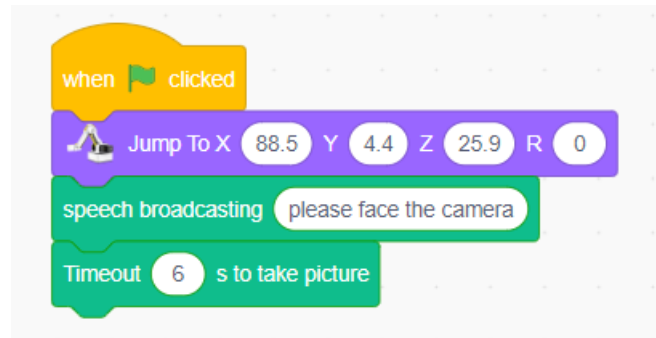

Figure 5.6 Program of taking a photo with a camera
Step 9: Write an identity authentication program. Move the robotic arm to a suitable position, and turn on the camera to take a picture of the face, as shown in Figure 5.6.